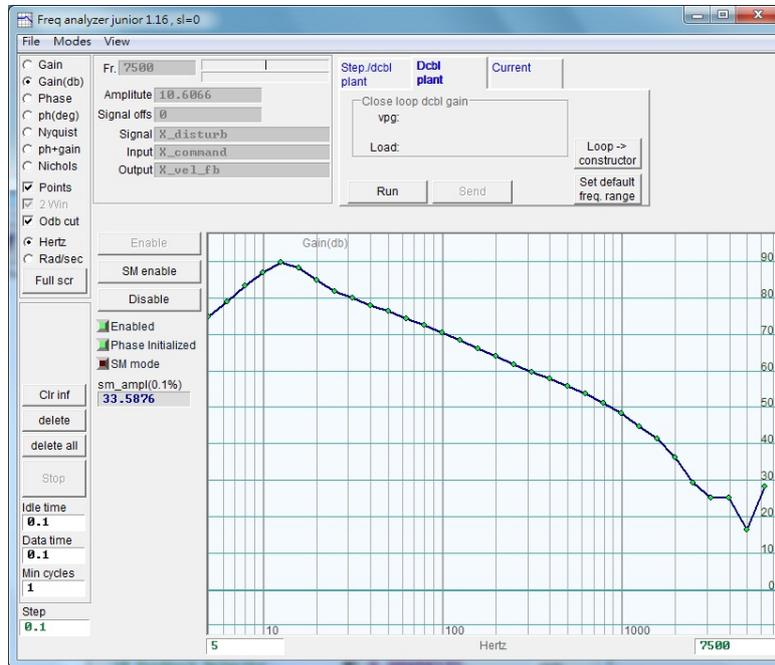

Figure 6.6.3.3
- Step 4. Left click the frequency response graph to display the cursor line of -20dB. Drag the cursor line by pressing the left mouse button to make it get closer to the frequency response line, as Figure 6.6.3.4 shows. During the process, the gain will be re-calculated and the vpg value will be displayed. When the cursor line is dragged downward, the gain increases. When the cursor line is dragged upward, the gain decreases.